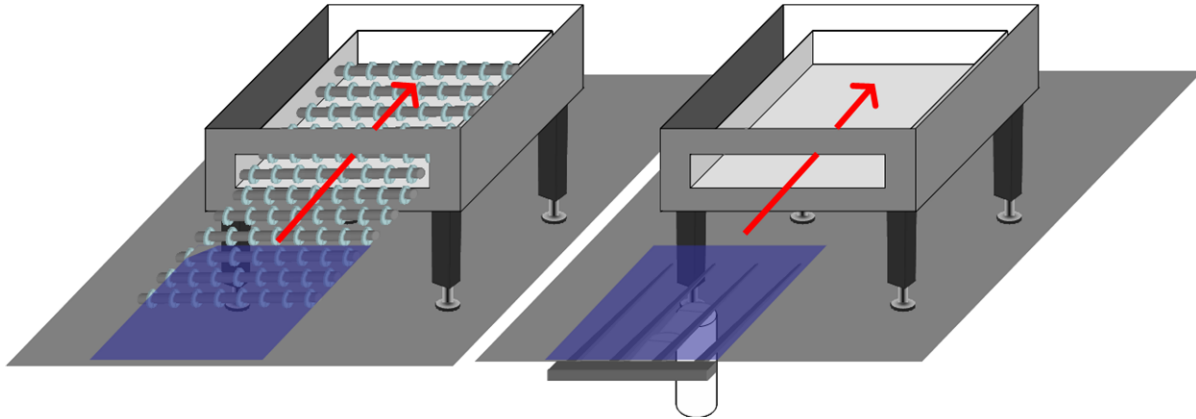

Figure 2
6.1.5 *single substrate transfer* — transfer to handover single substrates between single substrate transfer system and process equipment. Figure 2 shows examples of single substrate transfer.